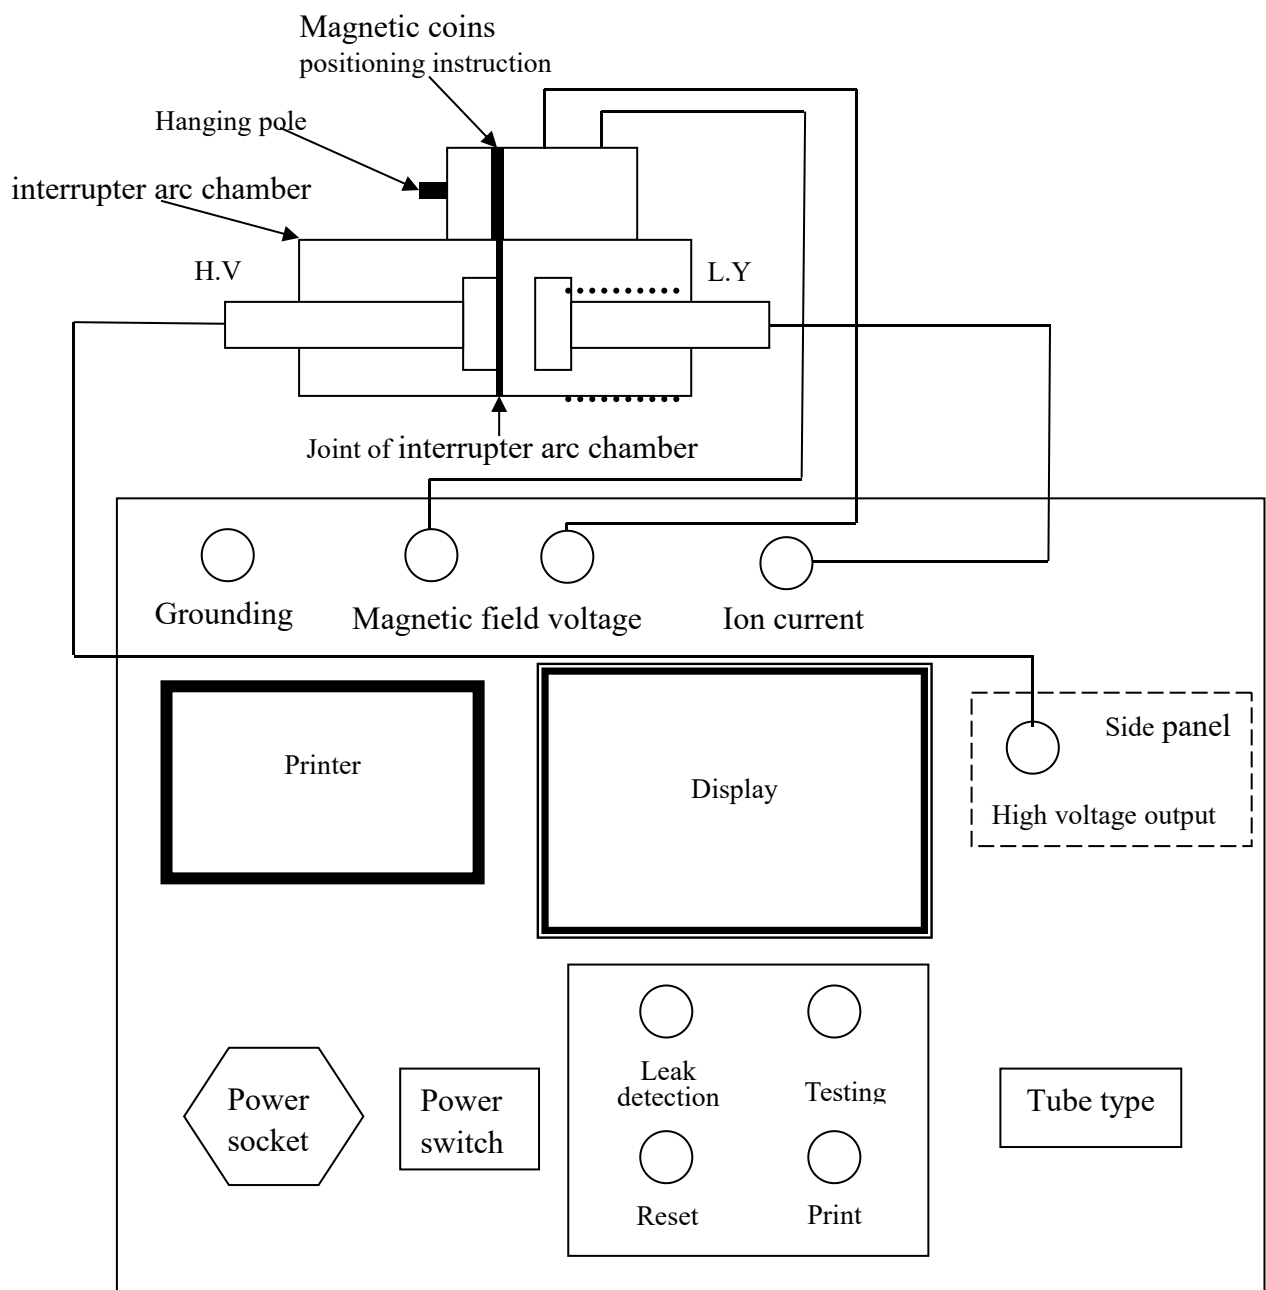

Figure 2. HM6070 Vacuum Tester for vacuum switch
Figure 2 shows the operation panel of the HM6070 Vacuum Tester, leak detection button is used to determine the preliminary vacuum of vacuum tube, measuring button is used to exert high electric voltage, strong electromagnetic field on the vacuum tube, and measure quantitative the vacuum of vacuum tube. There is a high-voltage output terminal in the left of instrument back, which should connect with the contact of vacuum tube; Ion current input terminal must connect with another contact on the vacuum tube, two output terminal of magnetic field voltage must be connect with two wiring terminal of excitation coils; ground terminal for protective grounding of equipment enclosures; DIP switch is used to enter the tube type of interrupter arc chamber; the tube type of interrupter arc chamber can be ascertained by tube's diameter and type of excitation coils.
(1) Pull and open two contacts pole of interrupter arc chamber for certain distance, and clean the surface; As shown in Figure 2, hanging the excitation coil and wiring all, and enter tube type of interrupter arc chamber through the DIP switch.